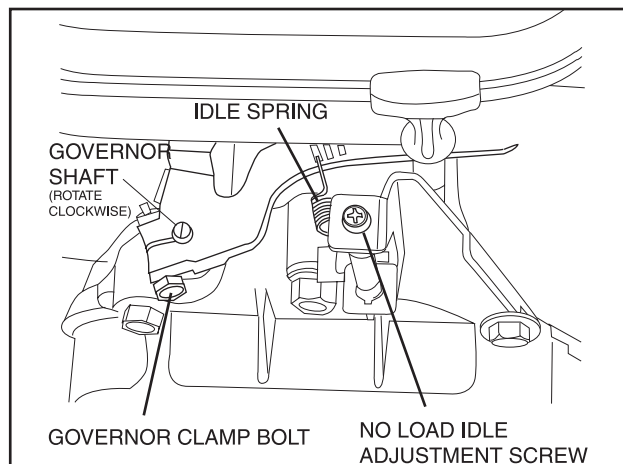

Figure 10. Engine Governor Adjustment V-twin Engines
1. Loosen governor clamp bolt (See Figure 10).